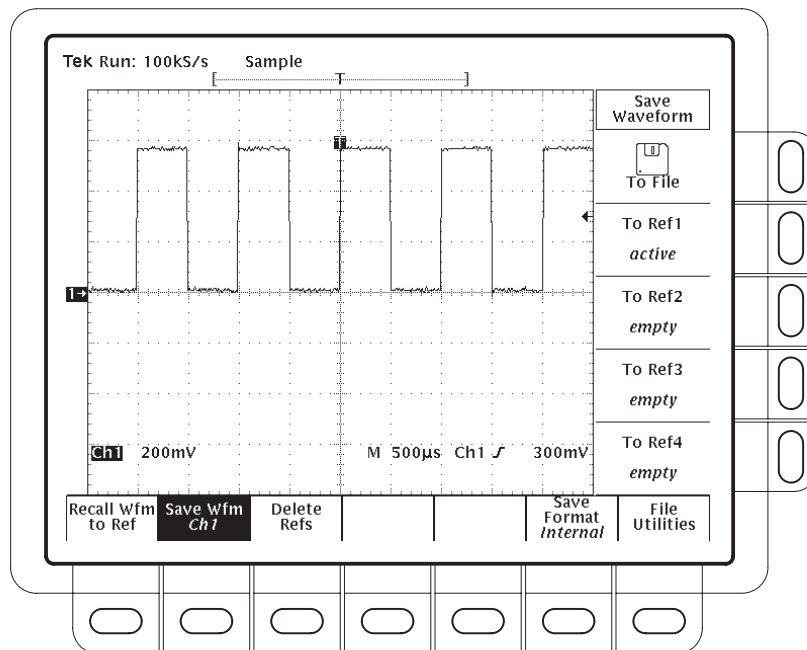

Figure 3-56: Save Waveform Menu (TDS 400A shown)
***NOTE.** Before doing step 2 that follows, note that if you use a reference memory location labeled active (see Figure 3-56), you overwrite the waveform that was previously stored there.*